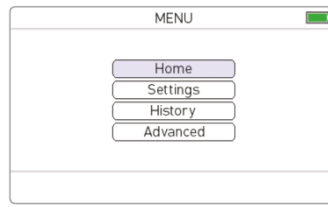

Figure 43. Menu
2. MENU (see Figure 43) is shown. Here you can adjust Settings, History and Advanced settings.